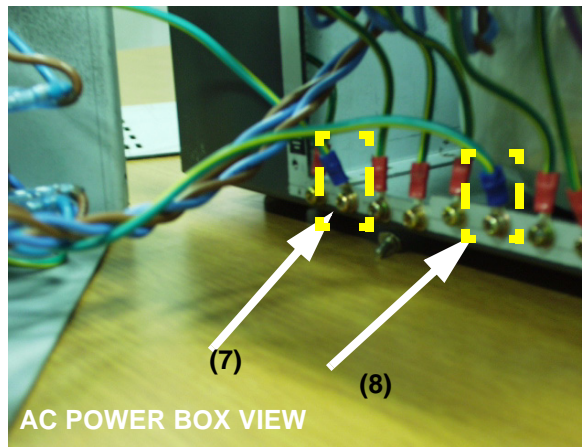

Figure 8-184 Unscrew two ground screws
4.) Unscrew two (2) ground screws (7-8). Refer to Figure 8-184.